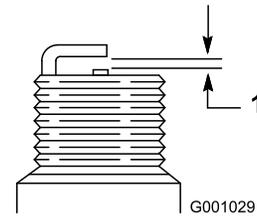

Figure 58
4. Set the gap between the electrodes on a new spark plug at 0.76 mm (0.030 inch) (Figure 58).